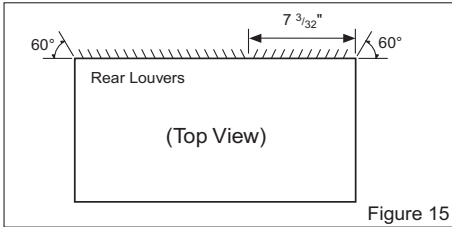

Figure 15
- 1 Redirect the louvers at the back of the wall sleeve to 60° angle as shown in the Figure 15. The use of pliers is recommended.